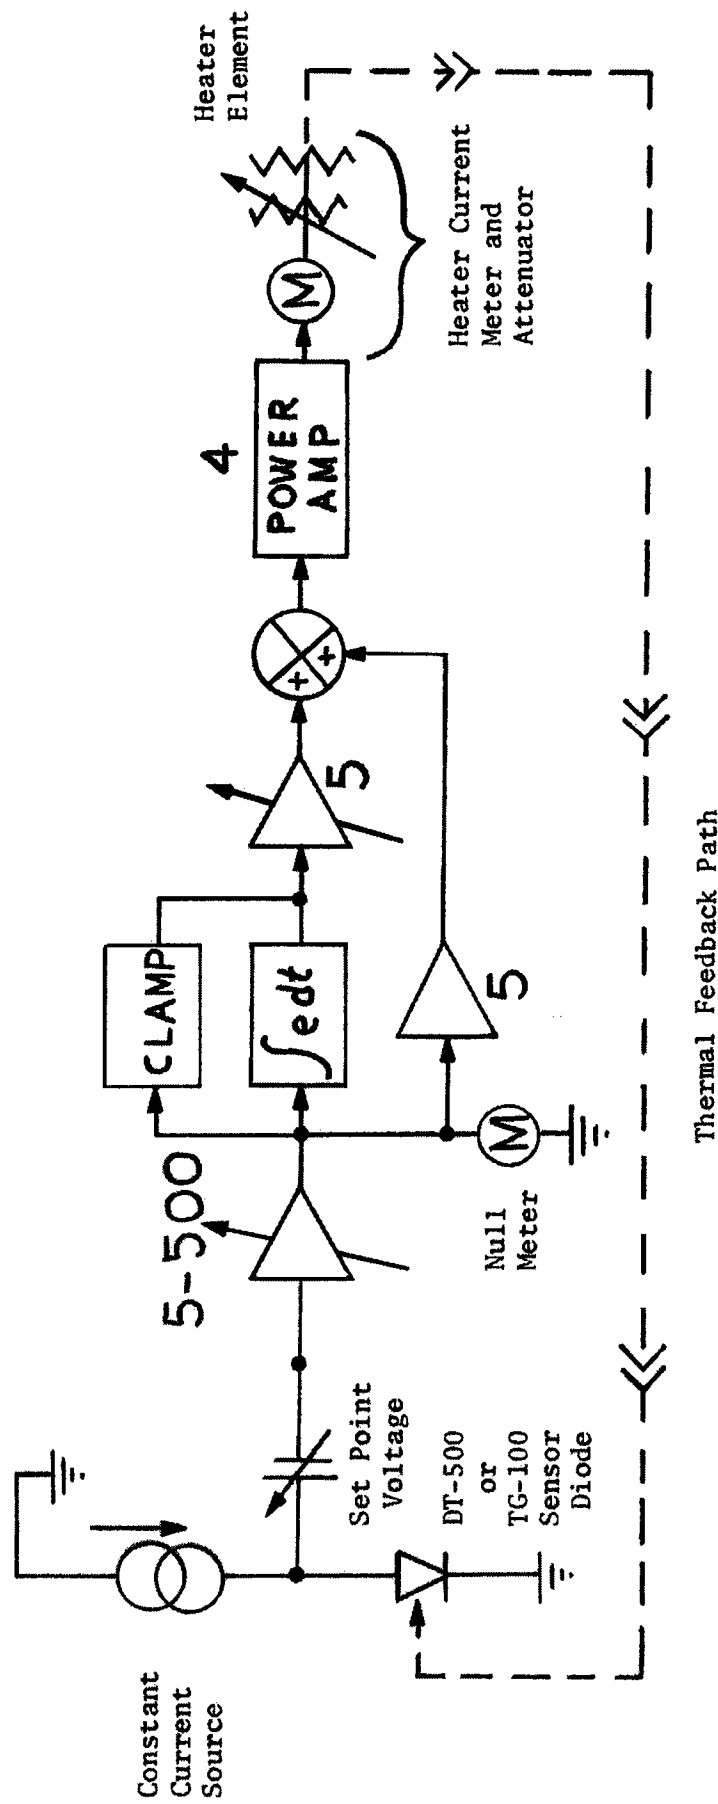

FIGURE 3.3-BLOCK DIAGRAM, DTC-500 TEMPERATURE CONTROLLER
Refer to Figure 3.3 and Figure 5.2 as an aid in the following discussion. With reference to Figure 3.3, a precision constant current source causes 10 microamperes of DC current to flow through the sensor diode. The set point voltage source (or bucking voltage) is subtracted from the diode voltage and the difference (or error) signal is amplified in a variable gain amplifier stage (operational amplifier A2 in Fig. 5.1). The amplified error is displayed on the NULL meter and also applied to (1) a gain of 20 amplifier, (2) an integrator circuit and (3) a bound or clamping circuit. The bounding circuit disables the integrator for large errors. The output of the integrator is amplified by a variable gain amplifier whose gain is set by the AUTO RESET potentiometer. The gain range is from 1 to 100. The integrator, bounding circuit, post integrator variable gain amplifier and constant gain of 20 amplifier are associated with operational amplifier A3, transistor Q1 and field effect transistor Q2 in Figure 5.1. The processed error signal drives the output power amplifier circuit whose voltage gain is 4. Operational amplifier A4 and transistors Q3 and Q4 in Fig. 5.1 comprise the power amplifier. The output of the power amplifier is metered by the HEATER CURRENT indicator and passed to the heater element. Closed looped control action is achieved through the thermal path between the heater element and the temperature sensing diode.
The variable gain amplifier shown in Fig. 3.3, with a gain range of 5 to 500, is realized by chopper-stabilized operational amplifier A2. The input resistor is R8 and the feedback element consists of R10, R11, R13, and R15 or R10, R11, R14, and R15.
The bound circuit, variable gain integrator, and the constant gain amplifier shown in Fig. 3.3 are realized by operational amplifier A3, bipolar transistor Q1 and field effect transistor Q2 in Fig. 5.1. A simplified equivalent circuit of the stage is given in Fig. 4.1.
Application of the principle that the summing junction currents must add to zero yields the overall transfer function of the stage. The constant gain amplifier in Fig. 3.3 is represented by the term  $R_{32}/R_{23}$  while the variable gain amplifier following the ideal integrator is represented by the term  $(1 + R_{32}/R_e)/R_{23}C_{16}$  in the equation in Fig. 4.1.